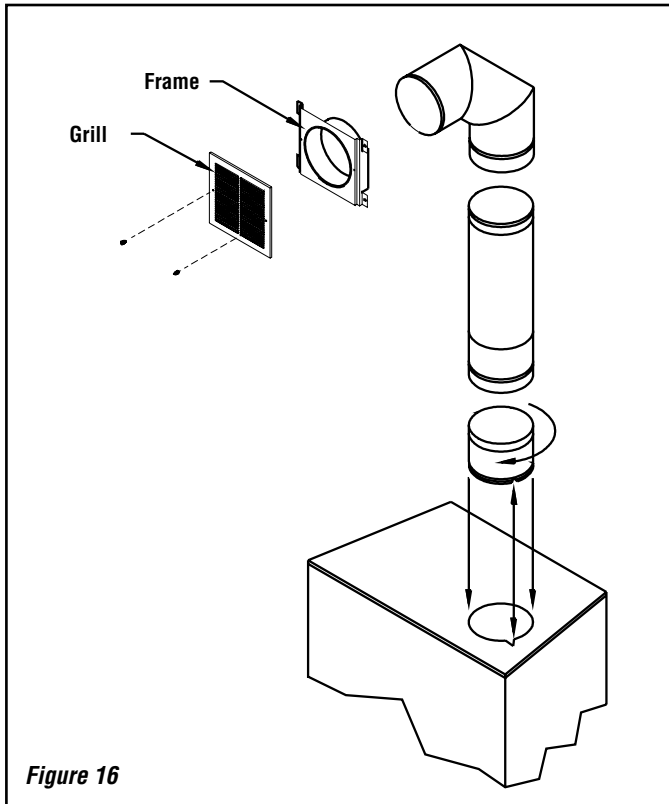

Figure 16
(See *Figure 16*)
1. Remove the plates closing up the 8" diameter holes on top of the fireplace. Then, cut the insulation in order to obtain two 8" dia. openings. Fix the adaptors on the fireplace openings by turning clockwise (Figure 16).